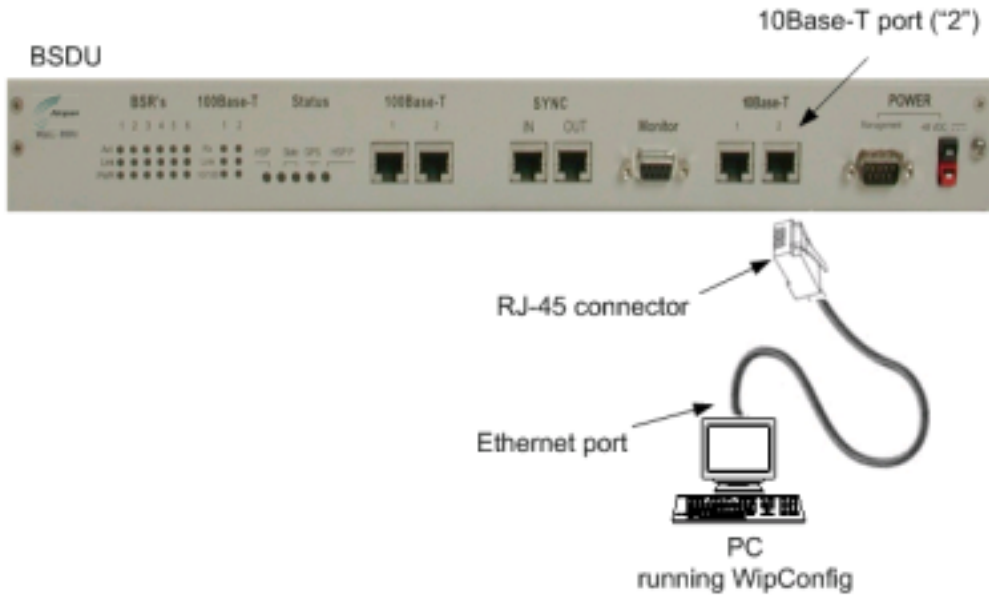

Figure 5-8: PC-to-BSDU Local Network Connection – 10Base-T Port
2. Connector the RJ-45 connector, at the other end of cable, to the BSDU's 10Base-T port labeled **2** (see Figure 5-8);